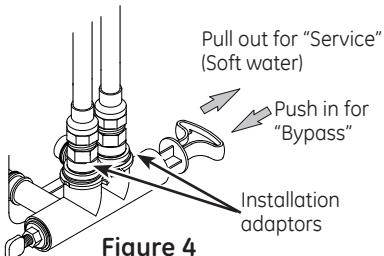
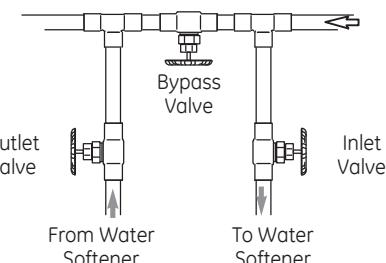
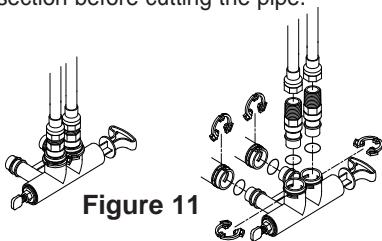

Figure 4
Figure 5
Figure 11
Always install either a single bypass valve (provided), as shown in Figure 4, or, if desired, parts for a 3 valve bypass system (not included) can be purchased and assembled, as shown in Figure 5. Bypass valves allow you to turn off water to the softener for maintenance if needed, but still have water in house pipes.
If you install a 3-valve bypass system (Figure 5), electrical continuity will be maintained. If you install the non-metallic bypass valve (Figure 11), please refer to the *Installing the Ground Wire* section before cutting the pipe.
3. Place the bypass valve in "bypass" position (see Figure 4). On a single valve, slide the stem inward to bypass. On a 3-valve bypass, close the inlet and outlet valves and open the bypass valve.